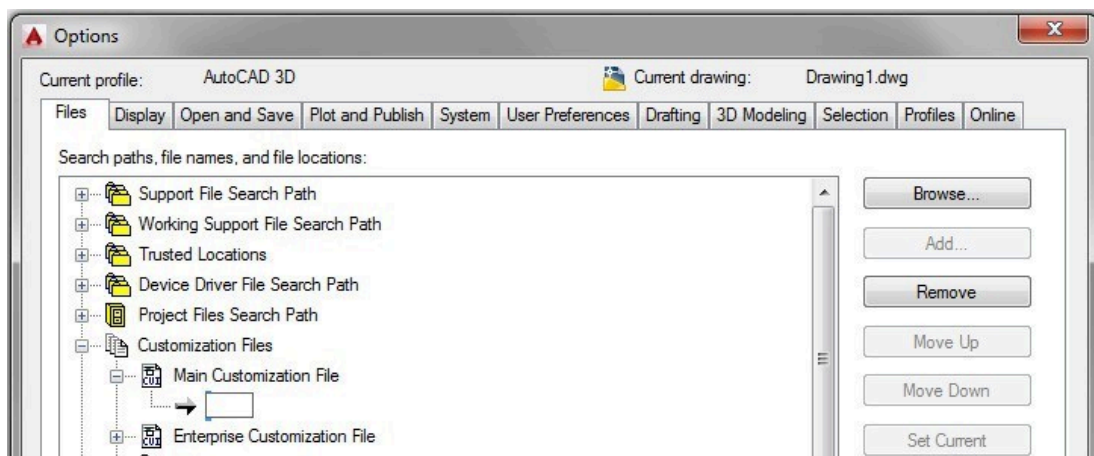

Figure Step 7
Step 6 will remove the customization file and show a blank box as shown in the figure. Click the Browse button to open the Select a file dialogue box. (Figure Step 7)